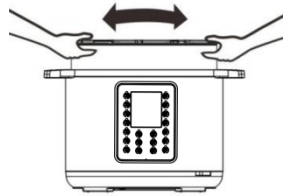

Figure 14
Be certain the inner receptacle, where the heating plate (14) is located, is clean and dry before inserting the Inner Pot (6) into the pressure cooker and adjust the pot left and right to ensure optimal contact between the Inner Pot and the heating plate (14) (Figure 14)
NOTE: You cannot adjust the Pressure Limiting Valve to the “Exhaust” position immediately after cooking, when using functions such as porridge or, soup. It is **IMPORTANT** that the Float Valve (5) sinks before any attempts are made to open the lid.(Figure 14)